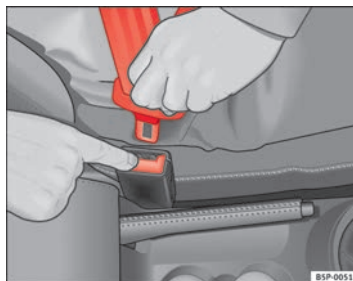

Fig. 16 Removing latch plate from buckle
- Press the red button on the belt buckle ⇒ fig. 16. The latch plate is released and springs out ⇒ ⚠.